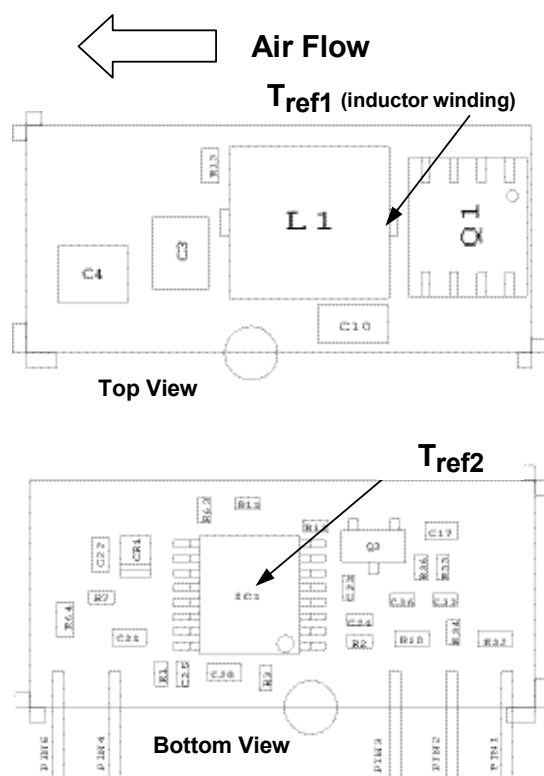
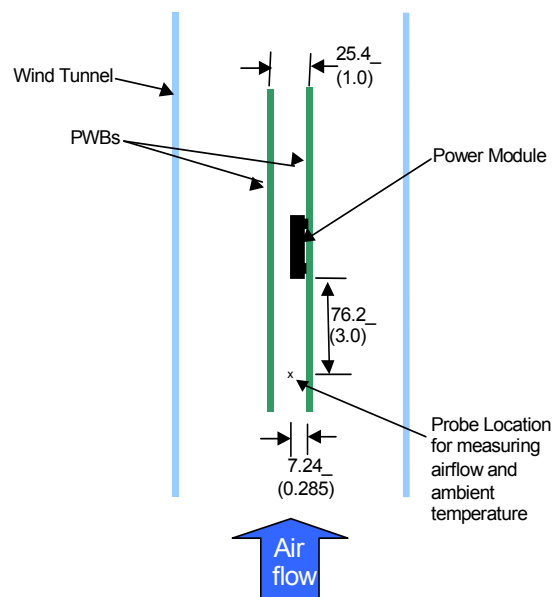

Figure 31.  $T_{ref}$  Temperature measurement location.
Figure 32. Thermal Test Set-up.
To provide over temperature protection in a fault condition, the unit relies upon the thermal protection feature of the controller IC. The unit will shutdown if the thermal reference point  $T_{ref2}$ , (see Figure 31) exceeds 140°C (typical), but the thermal shutdown is not intended as a guarantee that the unit will survive temperatures beyond its rating. The module will automatically restarts after it cools down.
Considerations include ambient temperature, airflow, module power dissipation, and the need for increased reliability. A reduction in the operating temperature of the module will result in an increase in reliability. The thermal data presented here is based on physical measurements taken in a wind tunnel. The test set-up is shown in Figure 32. Note that the airflow is parallel to the long axis of the module as shown in figure 31. The derating data applies to airflow in either direction of the module's long axis.
The thermal reference point,  $T_{ref1}$  used in the specifications of thermal derating curves is shown in Figure 31. For reliable operation this temperature should not exceed 125°C.